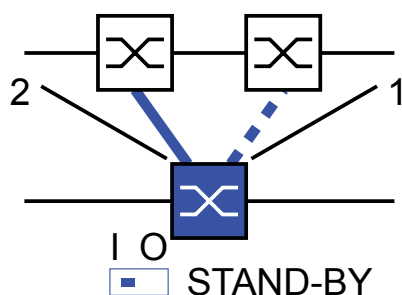

Figure 9: One-Switch-coupling
- ☐ Select one-Switch coupling (see fig. 9).